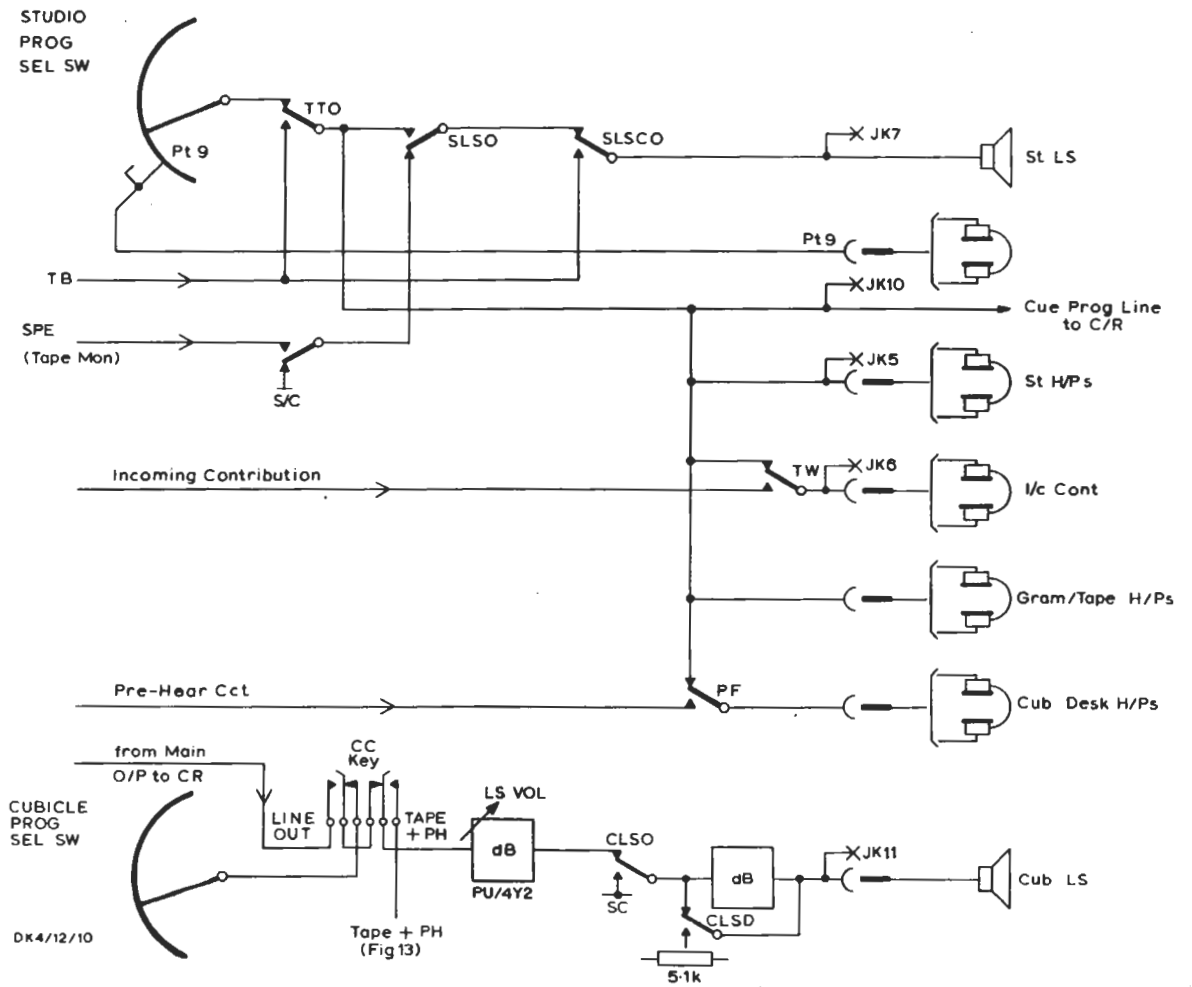

Fig. 10. Aural Monitoring System
Aural monitoring is by quality loudspeaker and/or headphones. The cubicle loudspeaker (Fig. 10) may
The output of the Studio Prog. Sel. switch (Fig. 10) is routed via the back contacts of the transmission talkback relay TTO in the following ways:
- (a) It connects the incoming contribution to the special Inc. Cont. studio headphones via relay TW (Fig. 10).
The tape machine outputs are selected by three interlocked locking pushbuttons mounted on the right-hand panel. When any of these is depressed, the selected output is connected to the tape monitor contacts of the Comp. Check key (Fig. 10) and to the Prehear/Tape Mon. PPM. The tape monitor circuits do not appear on the desk headphones, but are available on a maintenance jack (JK13).
- The Comp. Check key (Fig. 10) must be set to Tape Mon./Prehear.